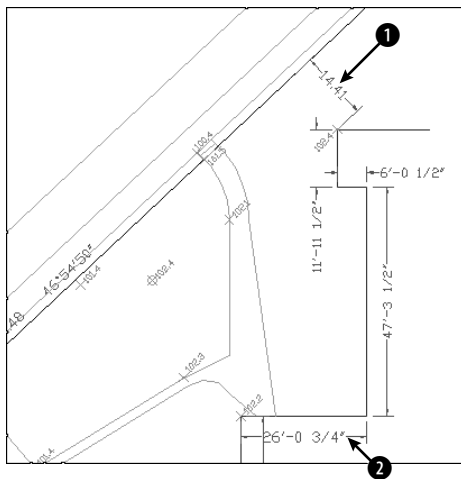

Figure 14-33: A dimensioned civil engineering drawing.
2. Save the file as `ab14-08.dwg` in your AutoCAD Bible folder. This is a civil engineering drawing whose dimensions need some editing (see Figure 14-33). If the Dimension toolbar isn't visible, right-click any toolbar and check Dimension.
3.  The dimension at ❶ in Figure 14-33 is not in the proper units because the text was entered explicitly as 14.41. To correct this error, choose Dimension Edit from the Dimension toolbar. At the `Enter type of dimension editing [Home/New/Rotate/Oblique] <Home>:` prompt, right-click and choose New. The Multiline Text Editor opens, showing the angle brackets. Because you want the original text, click OK. At the `Select objects:` prompt, pick ❶. Press Enter to end object selection. (You could correct several dimensions this way.) This action corrects the dimension, automatically creating the text in the current units.
4.  The dimension text at ❷ in Figure 14-33 is too close to the dimension line of the vertical dimension that crosses it. Choose Dimension Text Edit from the Dimension toolbar. At the `Select dimension:` prompt, pick ❷. At the `Specify new location for dimension text or [Left/Right/Center/Home/Angle]:` prompt, right-click and choose Right. This action moves the text to the right.